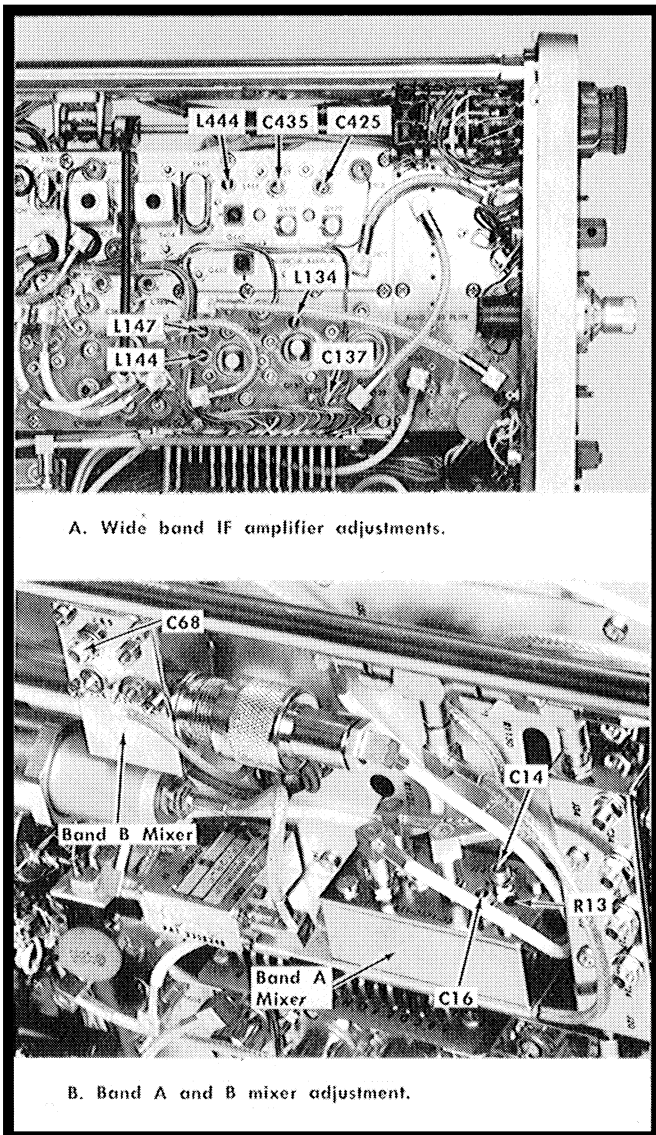

Fig. 6-39. Wide band IF and Mixer tuning adjustments.
e. Adjust L147 (Fig. 6-39), the 65 MHz trap, for minimum response to the 65 MHz signal.
k. If the response flatness is not within tolerance, adjust C137 and L134 (Fig. 6-39) for optimum sensitivity and flatness. Adjusting C137 will produce a noticeable affect on the response slope. Adjust L134 for optimum sensitivity at the high frequency end of the response.
n. Adjust C68 (Fig. 6-39) on the band B RF mixer for optimum sensitivity and bandpass flatness. Tune the signal across the screen with the RF CENTER FREQUENCY control to check flatness.
- f. Adjust C14, C16 and R13 (band A mixer, see Fig. 6-39) to minimize the amplitude of this feedthrough spur over the 5 MHz dispersion window.